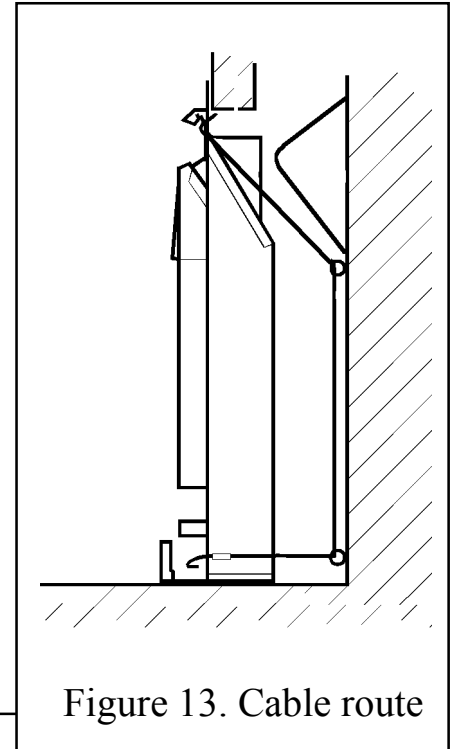

Figure 13. Cable route
5. Thread the cables through the upper eyebolts in the rear wall and then through the lower eyebolts. Return the cables through the holes near the bottom of the convection box back panel and through the "V" shaped brackets near the bottom front sides of the convection box. See figure 13.